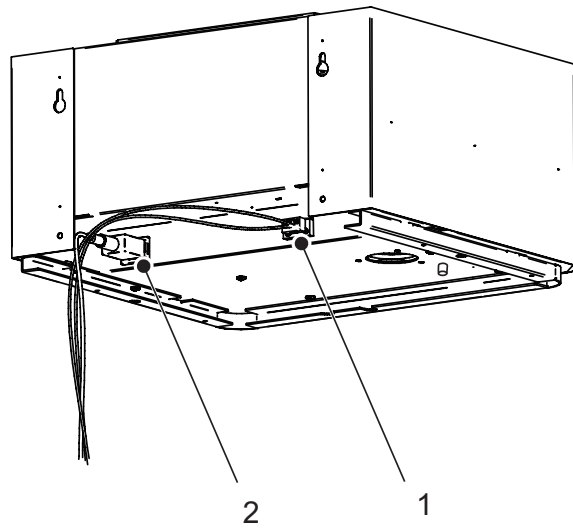

Figure 18: Blower Pack Electrical Connections
- a. Plug the power and security loop cables (supplied) into the back of the blower pack. Refer to Figure 18.